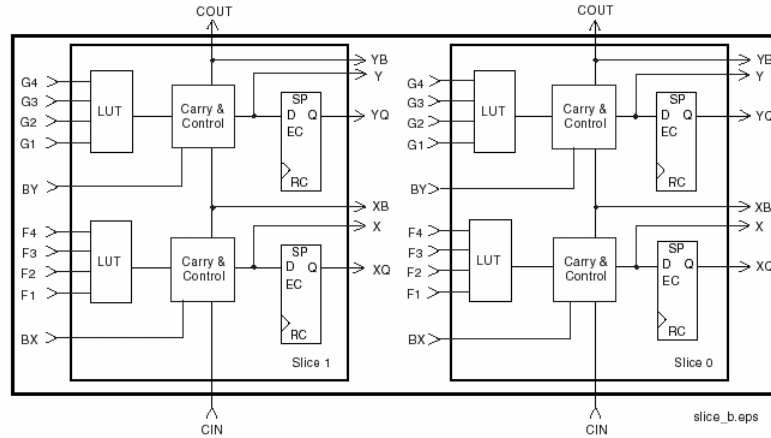

Figure 6; A simplified slice view. Taken from Virtex 2 datasheet.
- LUT: Form the basic logic generation. It is typically of four inputs, being able to build any four-input logic function. In a CLB as the one shown in figure 6, a LUT can also be configured and used as a 16-bit x 1 RAM or a 16-bit shift register.